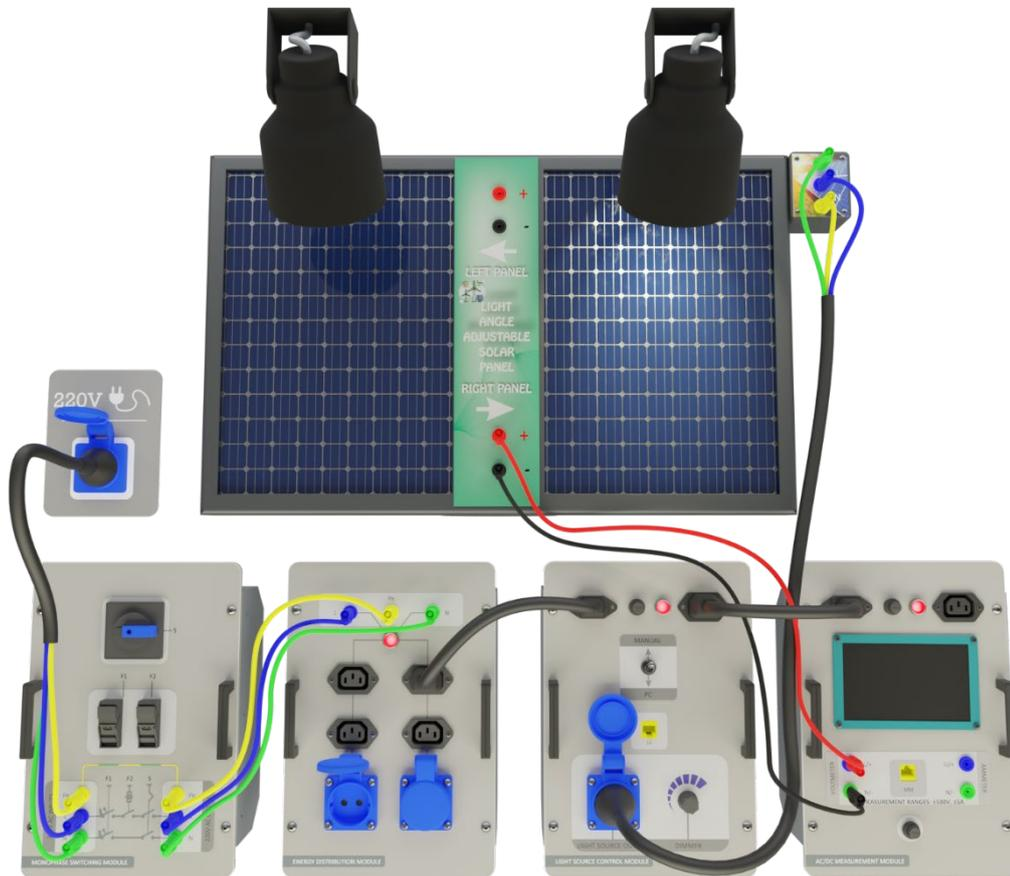

Figure-33. Installation Image of PV Current-Voltage Characteristic Extraction Experiment
1. Set up the connection as specified in Figure-33. Ensure a constant level of light in the laboratory by creating an average scenario. Any alterations to the positions of the lamps or curtains will impact the experimental outcomes.